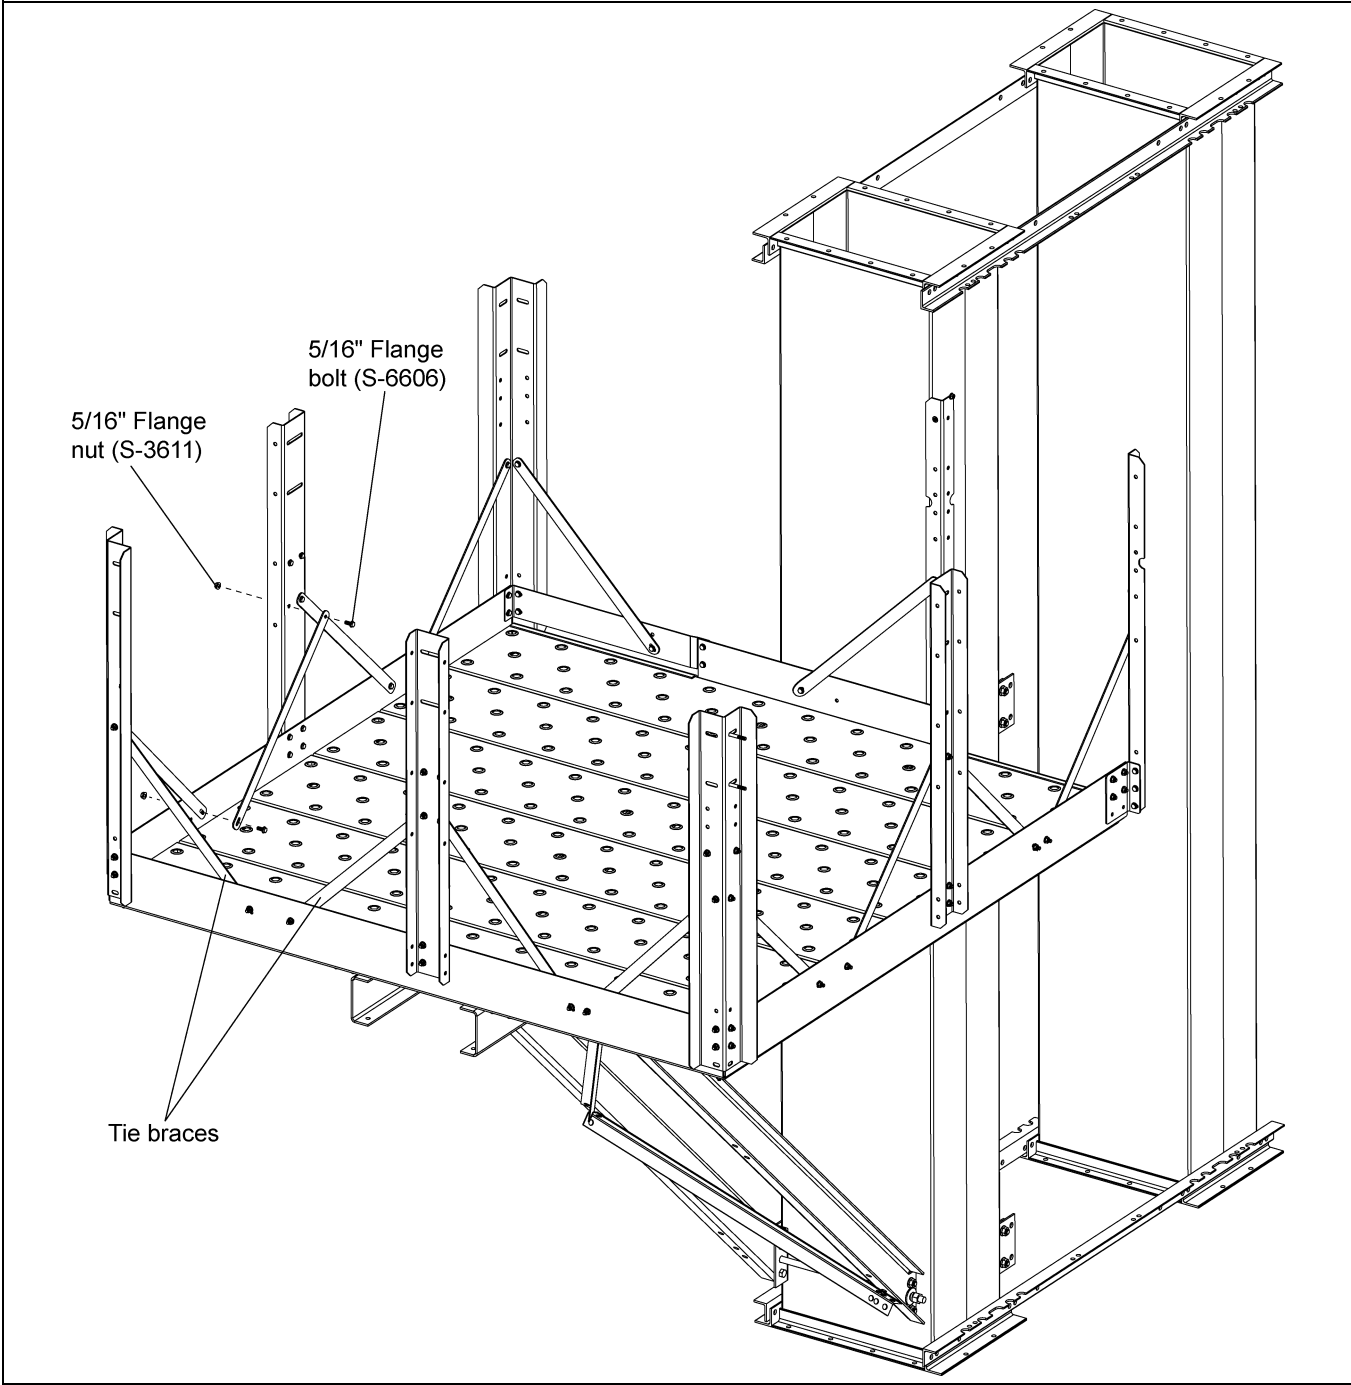

Figure 13I
Between each of the three (3) "W" corner posts (HP1648HWP), platform post (HP1648HCP) and safety gate side post (HP1648HP), attach two (2) tie braces (safety cage bar (LDR-5171BE)) from the lower half of the post to toe boards using 5/16"-18 x 3/4" ZN grade 5 bolts (S-6606) and 5/16"-18 YDP grade 2 flange nut (S-3611). (See Figure 13I.)